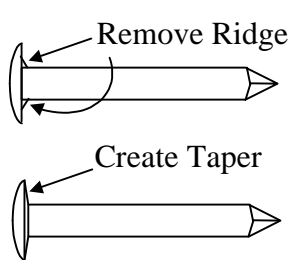
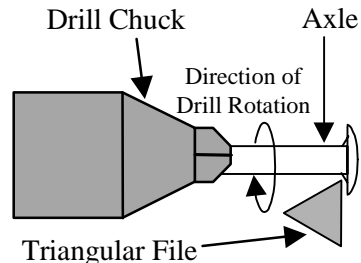

FIGURE 12
FIGURE 13
The purpose of the grinding step is to remove the ridge and create a taper on the head of a nail-type axle (see Figure 12). A triangular file is required for this step.
3. Start the drill with the axle spinning as shown in Figure 13. Use *light pressure* on a triangular file to remove the ridge near the nail head and create a slight taper on the nail head (see Figure 12).